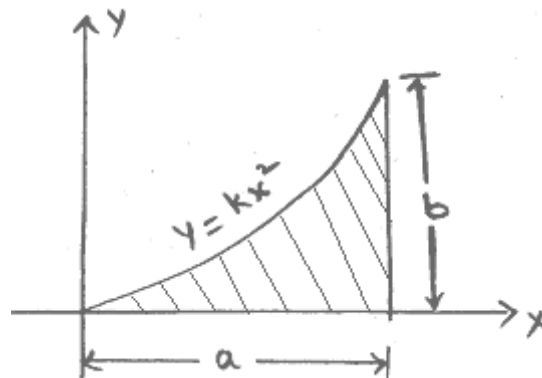

Figure 8a
6. (a) Determine the moment of inertia of the shaded area about the x – axis. {As shown in the Figure 8a}. [8+8]